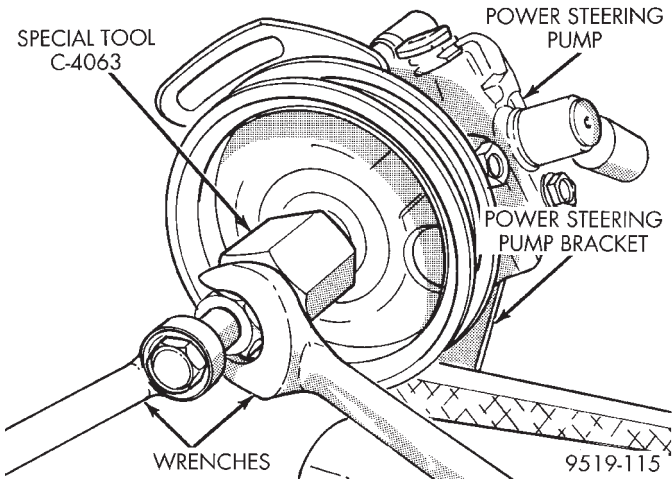

Fig. 34 Installing Pulley On Shaft Of Power Steering Pump
(4) Mount Installer, Special Tool C-4063 in internal threads of the power steering pump shaft and against Special Tool 6936 on power steering pump pulley (Fig. 34).
(5) Ensuring that special tool and pulley remain aligned with pump shaft, force pulley onto power steering pump shaft until Special Tool 6936 is against the end of the shaft. **When Special Tool**